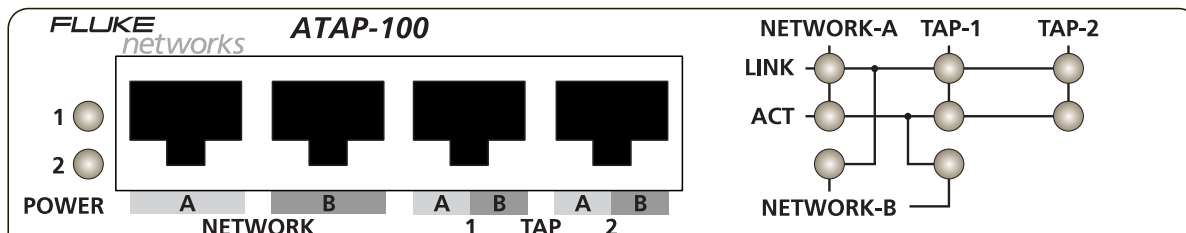

Figure 4. ATAP-100 Link Aggregating In-Line Tap front panel and display
**Figure 4** displays the ATAP-100 Link Aggregating In-Line Tap front panel. This is the location for all cable connections and status LEDs.